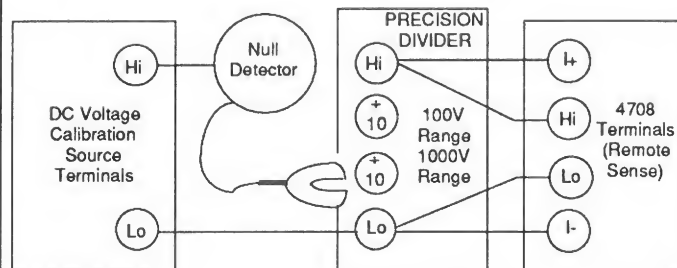

Fig. 8.1 4708 connections for DC Voltage Calibration
Select DC and connect the DC Voltage Calibration Source and Null Detector to the 4708 terminals as shown in Fig. 8.1(a).
Calibrate the DC Voltage ranges in the step sequence of Table 8.2, using the Calibration Routine at each step (except steps 2 and 3). For steps 10 - 13, reconnect as Fig. 8.1(b).
Carry out Step 1 of Table 8.2. Proceed with the desired steps of Table 8.2, using the Calibration Routine at each step (except steps 2 and 3). For steps 10 - 13, reconnect as Fig. 8.1(b).
- C** In Table 8.2(a), use interconnections as Fig. 8.1(a) (Low Voltage), obtaining the correct calibration voltage from the source.
In Table 8.2(b), use interconnections as Fig. 8.1(b) (High Voltage) selecting + 10 at steps 10 and 11, + 100 at steps 12 and 13.
(a) Low Voltage – connect as Fig. 8.1(a)
(b) High Voltage – connect as Fig. 8.1(b)